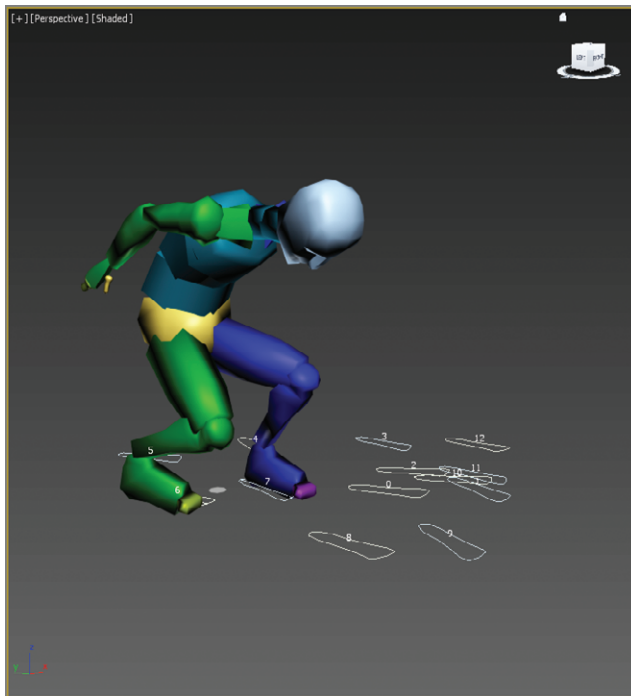

FIGURE 13.12 Prepare your biped to jump.
- d. Rotate both arms backward into a pre-jump posture, as shown in Figure 13.12.